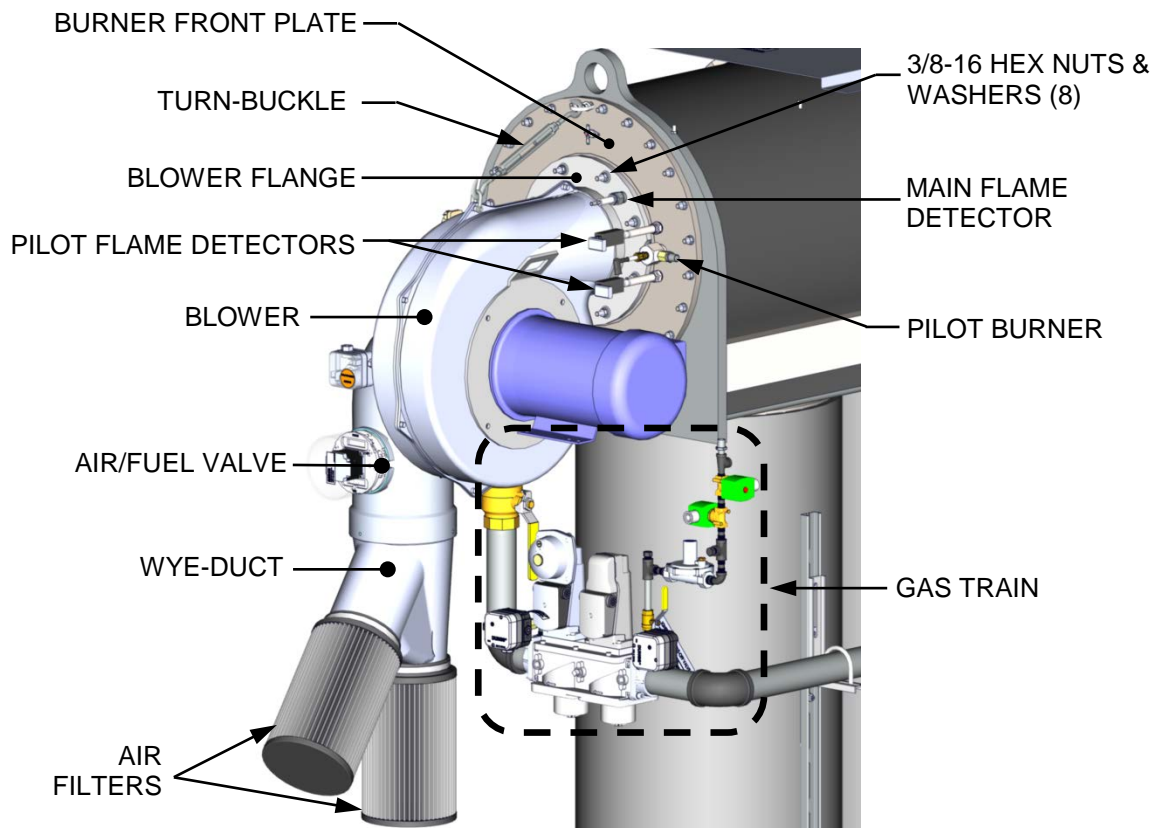

Figure 7-4a: Burner Assembly Mounting Details – Right-Front View
7. Remove both Pilot Flame Detectors and the observation ports from the Burner Plate (Figure 7-4a).
19. Loosen and remove the eight (8) 3/8" hex nuts and washers from the Blower Flange where it is attached to the Burner Plate (see Figures 7-4a & 7-4b).